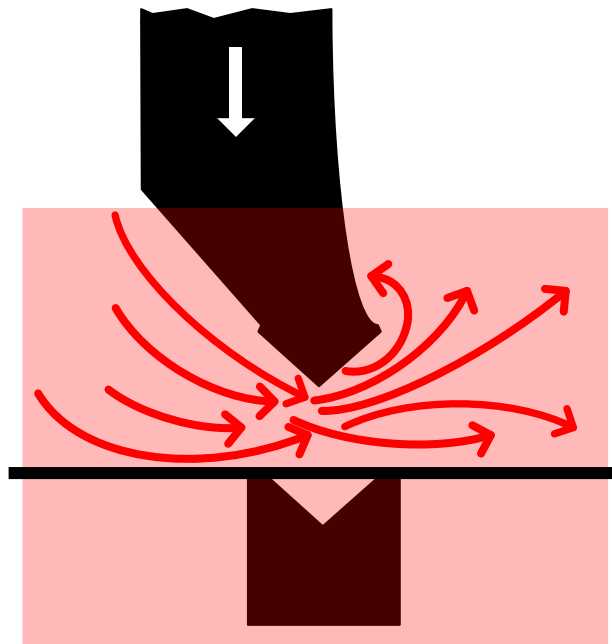

Figure 2-6: Block Laser Distortion Caused By Air Flow as Tools Close
A difference in temperature between the inside and the outside of the press brake will cause airflow between the tools. Near the pinch point this airflow is concentrated and increases in speed and turbulence as the opening between the tools closes. This may lead to localised, fluid distortion around the tool tip, as shown in **Figure 2-6**.
3. **Solid back gates help prevent airflow through the machine.** Solid back gates with minimal ventilation restrict the airflow through the machine which will help to minimise the distortion caused by air flowing over the tools. Well ventilated or mesh back gates allow high levels of airflow through the machine and over the tools as they close (see **Figure 2-6**) which can lead to laser distortion and intermittent obstructions near the mute-point.